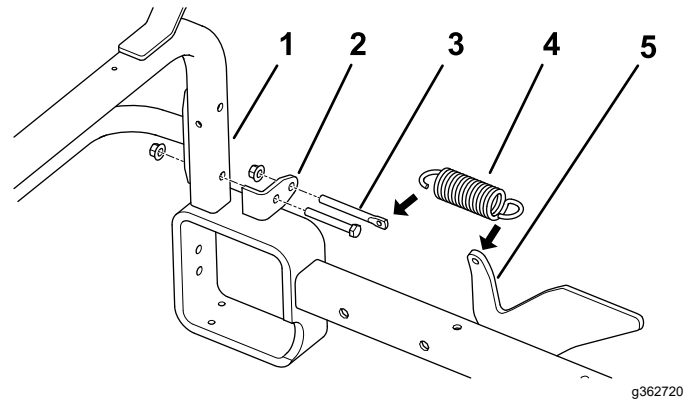

Figure 14
2. Remove the **lower** nut and bolt securing each hitch tube mounting bracket to the vertical frame tubes (Figure 14).
Note: Position the spring brackets as shown in Figure 14.